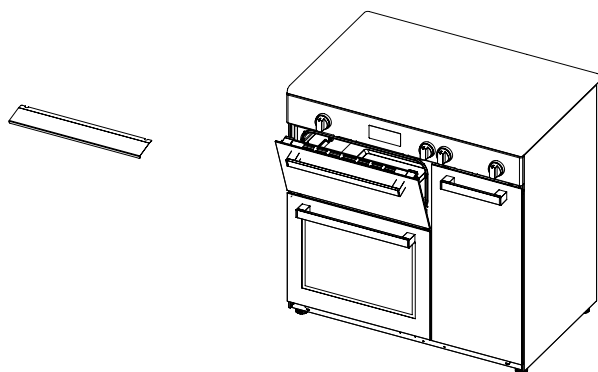

Figure 52
1. A safety panel is designed to protect control panel and the buttons when the oven is in grill mode. (figure 52)